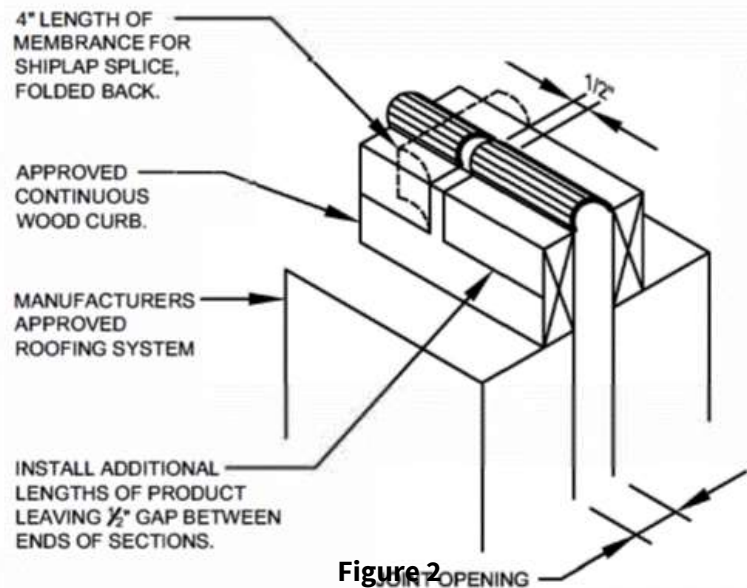

Figure 2
2. Repeat steps 1 and 2 for remaining sections of style EWCF, being sure to provide 1/2" gap between ends of sections. **See Figure 2**